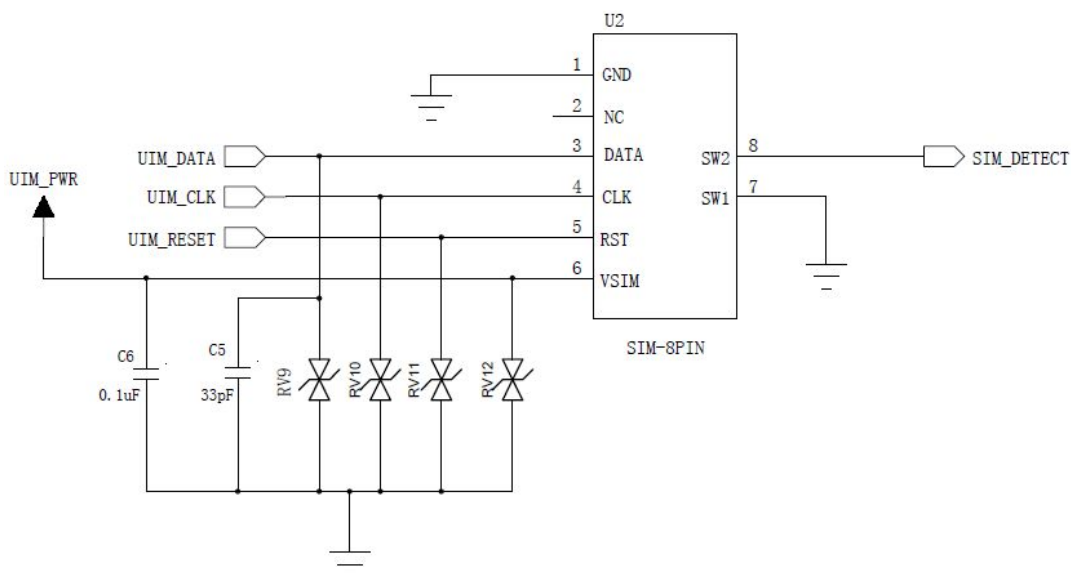

Figure 5-7 Normally Closed SIM Circuitr Reference Design
1) For normally closed SIM connector circuit, as shown in Figure 5-7. SIM_DETECT connects Pin8 (SW2) of U2, Pin7 (SW1) short GND. When there is no SIM card, SW2 and SW1 short, SW2 is low level. When SIM card inserted, SW1 and SW2 disconnect, SIM_DETECT is pulled high.